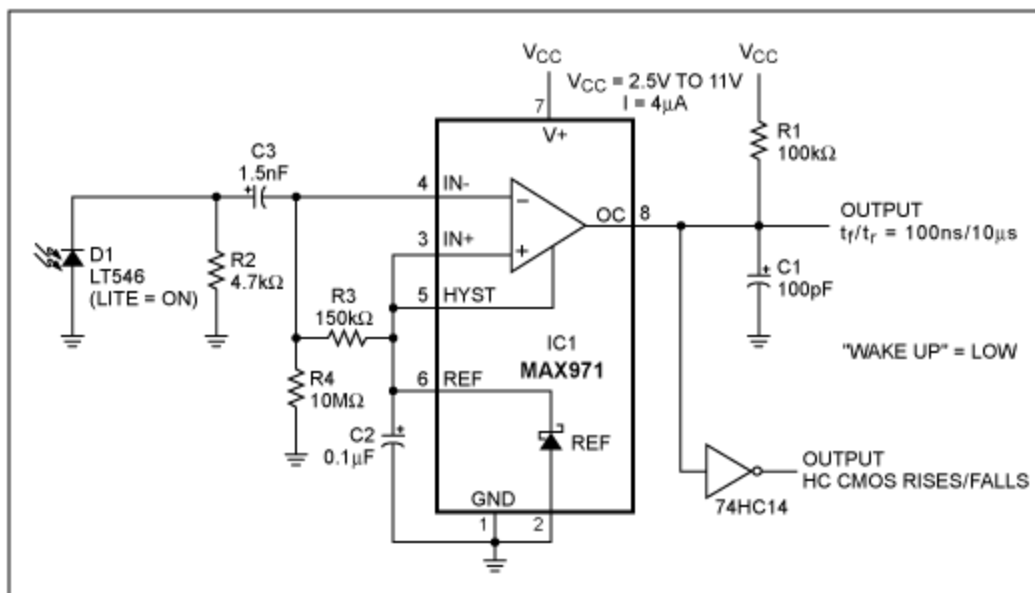

Figure 1. This low-quiescent-current circuit ($4\mu\text{A}$ maximum) interrupts the host processor when it detects an IR signal.
The sensor/monitor circuit of **Figure 1** "wakes up" the host system on detection of infrared (IR) signals. It draws so little supply current that it can remain continuously on in a notebook computer or PDA device. Its ultra-low current drain ($4\mu\text{A}$ maximum, $2.5\mu\text{A}$ typical) is primarily that of the comparator/reference device IC1.